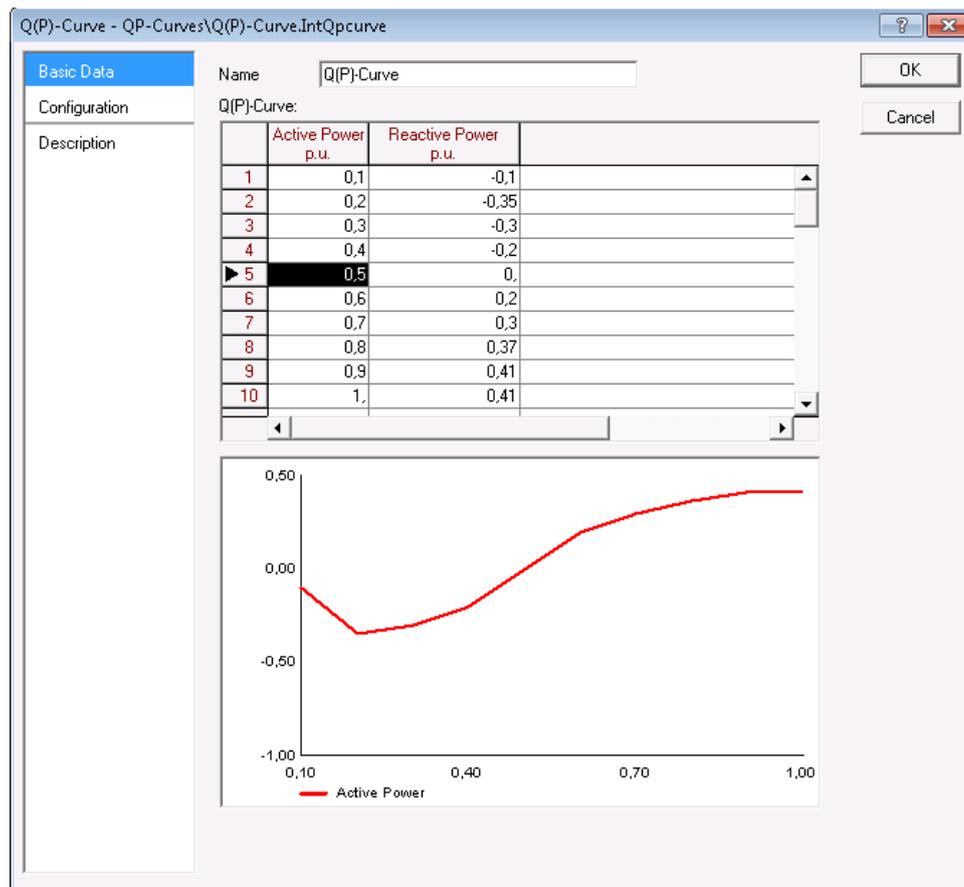

Figure 5.5: Q(P)-Curve dialog
**Q(P)-Characteristic:** The new Q(P)-Characteristic is freely-definable either as a p.u. curve or a MW/Mvar curve, as shown in Figure 5.5. Analogous to **PowerFactory** types, these characteristics can be managed via the Operational Library and are available for synchronous machines, static generators, PV systems, asynchronous machines (DFIG), and station controllers.